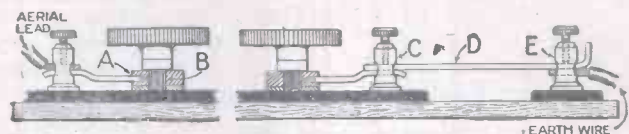

Fig. 5.—Details of Connections.
Fig. 5 shows the connections. The brass bush under the control knob is drilled to the depth of 1/8 in. (A) and the square wire is then soldered to it. A loading coil, if required, may be connected between the terminals C and E, the bar D being removed. The detector and phone terminals are not indicated.